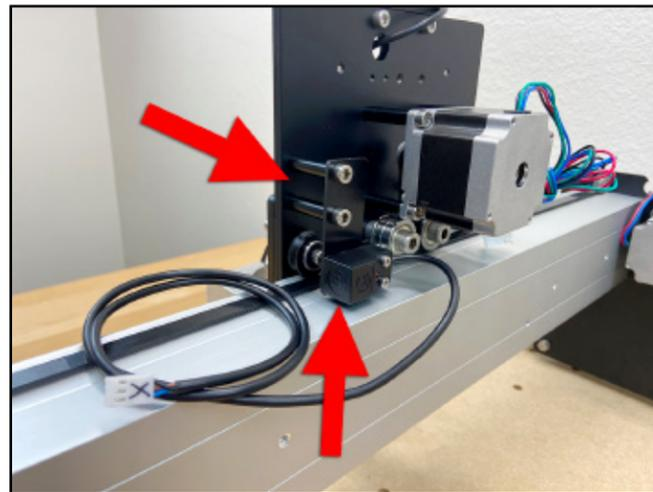

Figure 6-6
4. Use the 4mm hex key and two (2) M5×8mm socket head cap screws to install the mounting plate to the two 30mm standoffs at the rear of the Z-Plus. Ensure the proximity switch is on the outside of the switch plate and faces the Y2-rail. See **Figure 6-6**.
5. Label the X-Axis proximity switch cable connector with an "X" as shown in **Figure 6-6**.